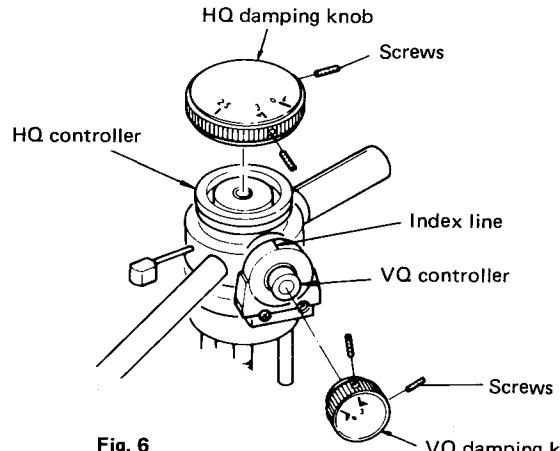

Fig. 6
- How to replace the HQ damping knob (Fig. 6)
- How to replace the VQ damping knob (Fig. 6)